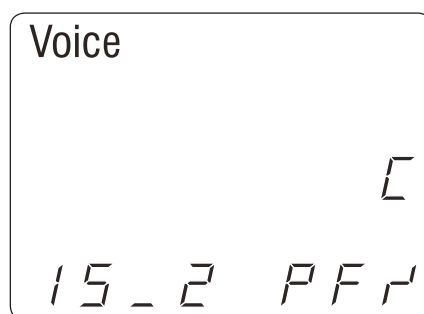

Figure 15. Viewing Length Constant
1. While in Length Mode, press the LENGTH/TONE button again to view the length constant. The following occurs in the display screen (see Figure 15):